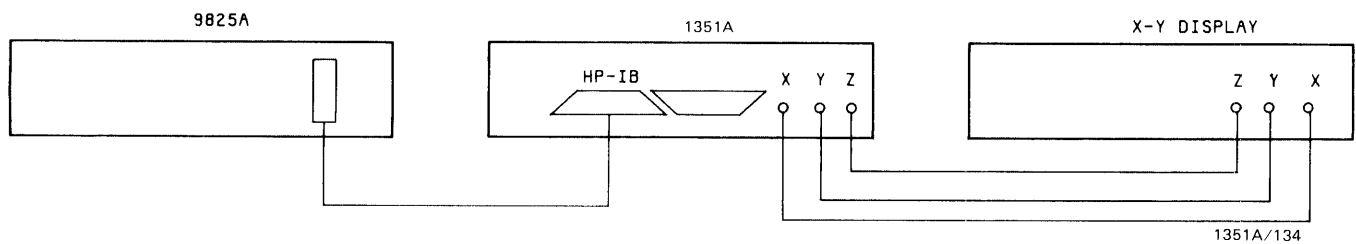

Figure 5-3. Equipment Setup
- c. Connect and secure HP-IB cable from 9825A to rear of 1351A. Equipment should appear as in figure 5-3.
- a. Connect equipment as shown in figure 5-3.